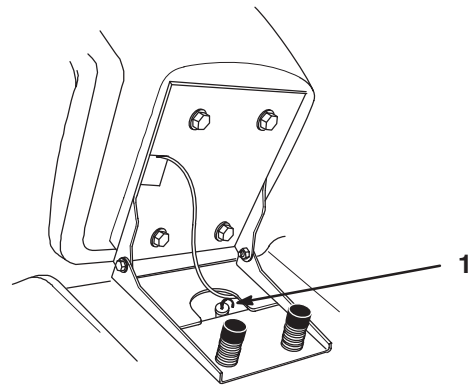

Figure 46
4. Clean around the transmission dipstick (Fig. 46) so dirt cannot fall into the filler hole and damage the transaxle.
5. Pull out the transmission dipstick and wipe the metal end clean (Fig. 46).
6. Slide the dipstick fully into the filler tube (Fig. 46).
1. Slowly pour the specified refill capacity of oil into the filler tube (Fig. 46).